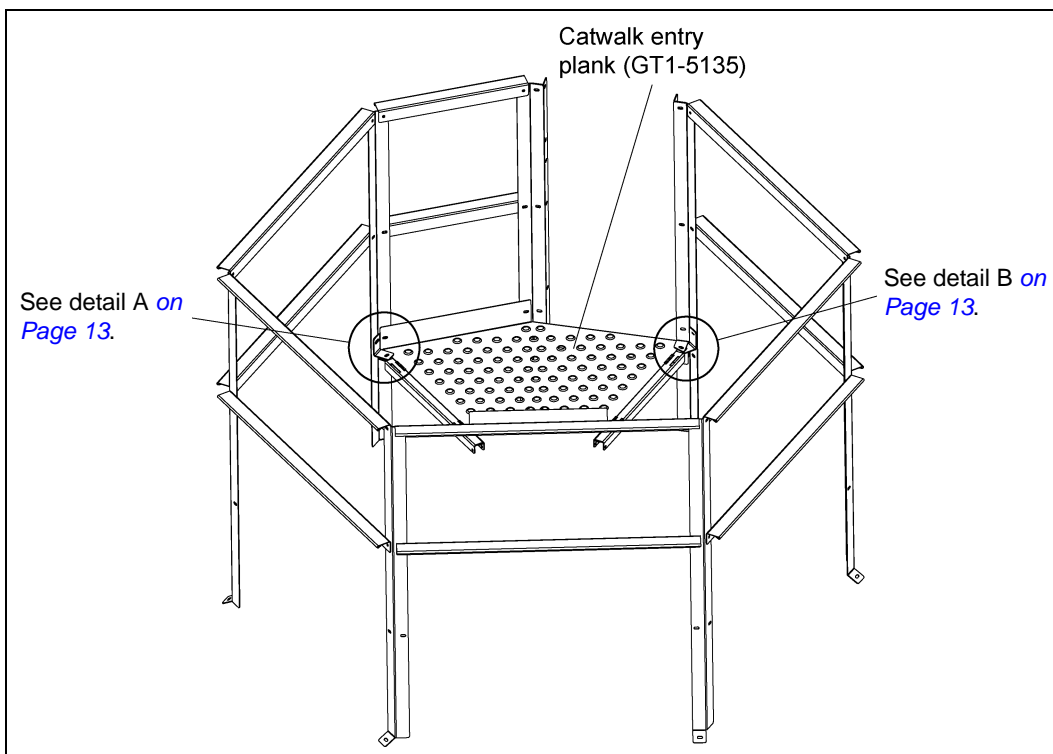
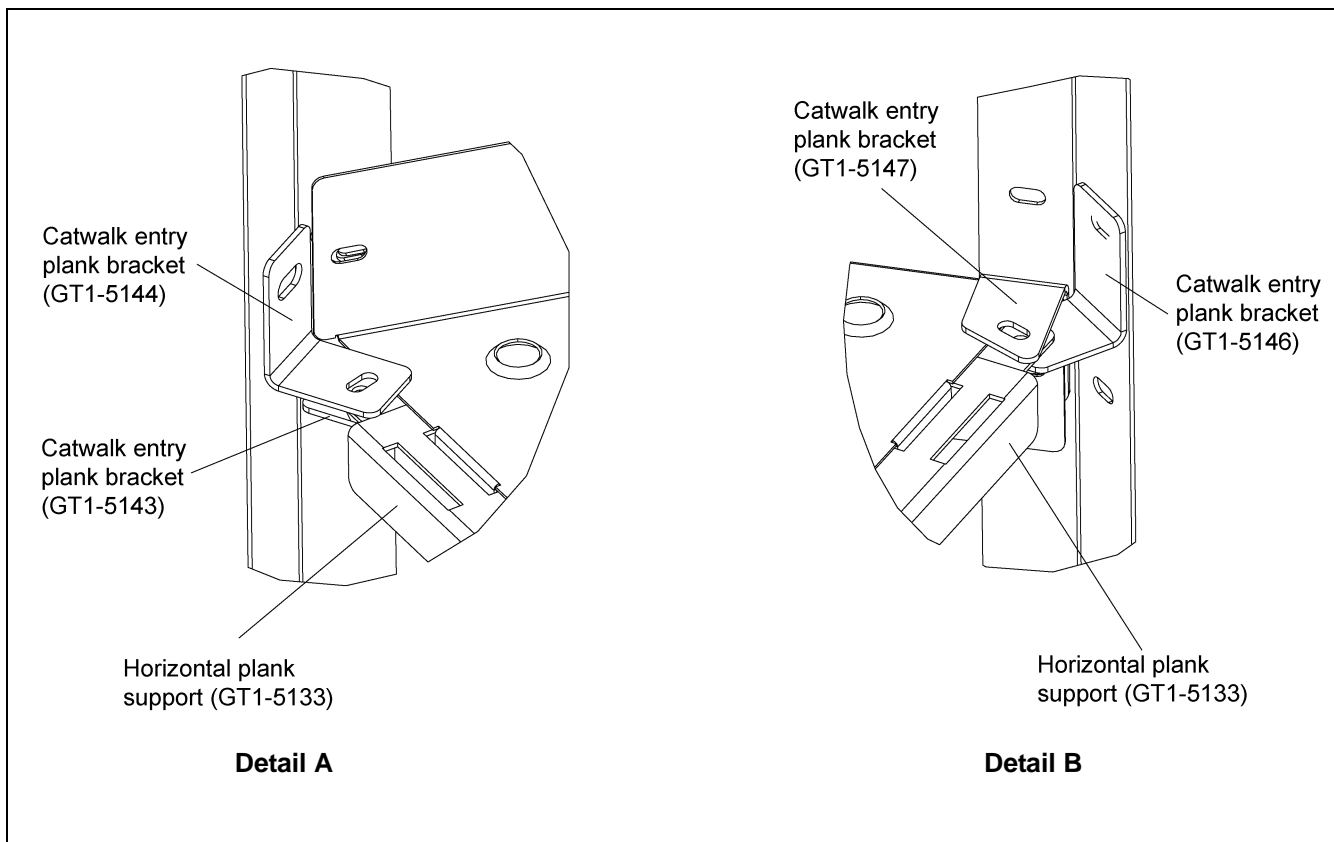

Figure 3H
Figure 3I
7. Assemble catwalk entry plank (GT1-5135), brackets (GT1-5146, GT1-5147, GT1-5144, GT1-5143), horizontal plank supports (GT1-5133) using 5/16" hardware. (See Figure 3H below and Figure 3I on Page 13.)